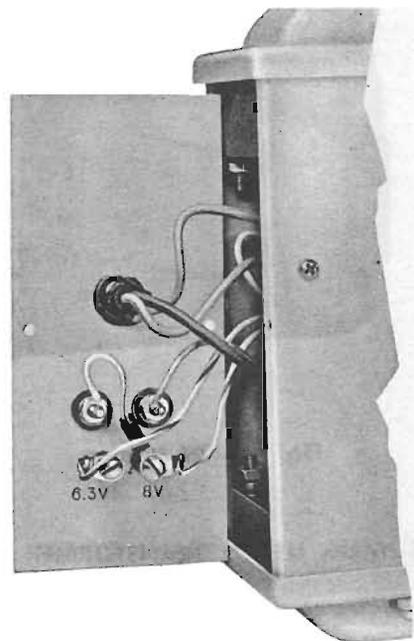

Fig. 7 — Movable Lead Connected to 8-Volt Tap
8.03 Output taps of 6.3 and 8.0 volts are located on back of cover as shown in Fig. 7. Transformer is shipped with moveable lead connected to 6.3-volt tap.